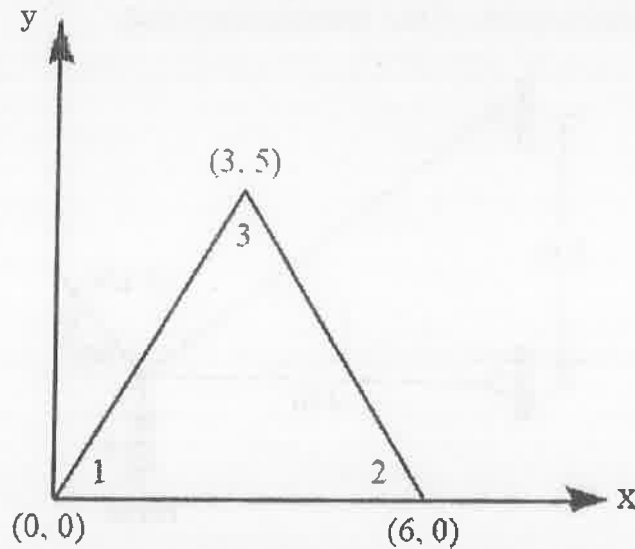

Figure. 5
14. (a) Evaluate the element stiffness matrix for the triangular element shown in Figure 5, under plane stress conditions. Take $E = 200 \text{ GPa}$; $\nu = 0.25$; $t = 1 \text{ mm}$.